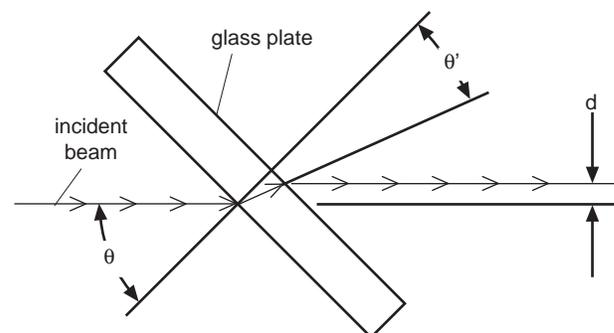

Figure 2.2
- ① Remove the paper from between the glass plate and component carrier. With the glass plate perpendicular to the bench, put the viewing screen directly behind the plate and adjust the aperture mask to center the image on the screen. Rotate the table to a convenient angle. Light is refracted toward the normal when passing from air to glass. Is the same true when light propagates from glass to air? By observing the position of the image on the viewing screen, you can see that the refraction must be away from the normal at a glass-air interface. (See Figure 2.2)
- ② The ray passing out of the glass is parallel to, but displaced from the incident ray. By measuring the displacement of both vertical edges of the image, and averaging we can closely estimate the displacement of a ray in the middle of the image. Such a ray was perpendicular to the glass plate before it was rotated.
- ③ Let  $d$  be the displacement of the image,  $\theta'$  the angle of incidence (i.e. between refracted ray and normal), and  $t$  the thickness of the glass plate. Then compute  $\theta'$  from the formula,